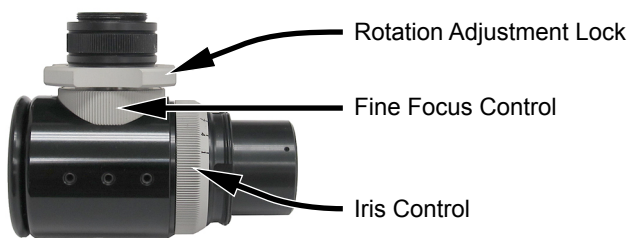

Figure 6-10 Video Adapter Adjustments
- Follow these instructions to fine tune the image using the controls in, (Figure 6-10).